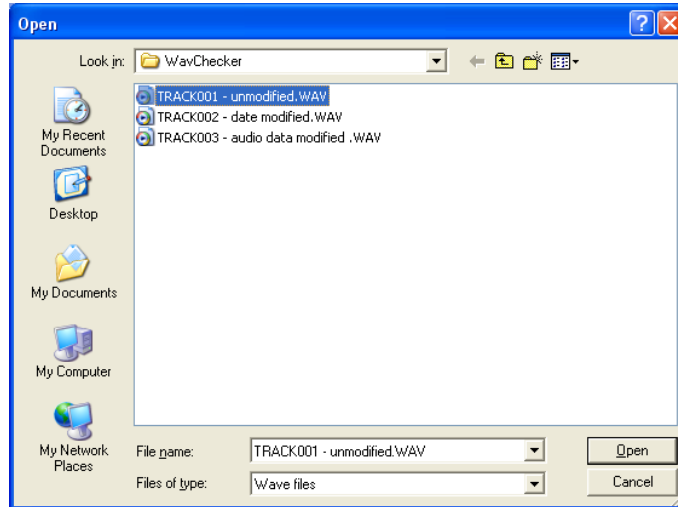
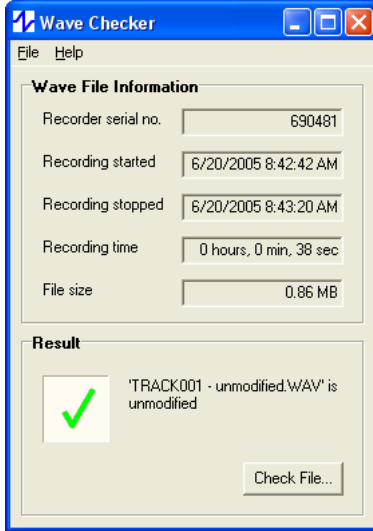
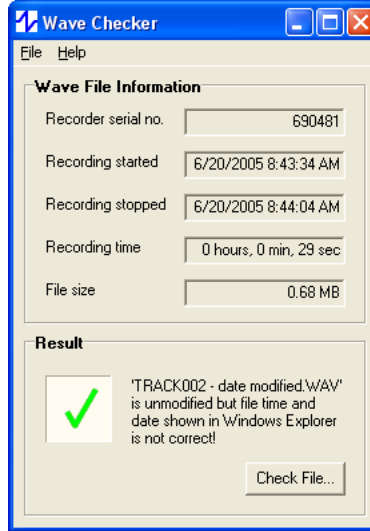
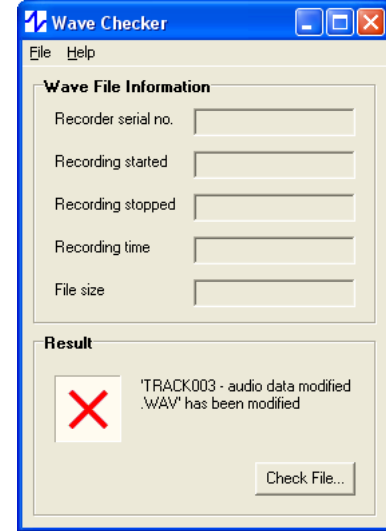

Fig. 2. The Windows Open dialog box.
Fig. 3. Result: Unmodified wave file.
Fig. 4. Result: Unmodified wave file but time/date not correct.
Fig. 5. Result: Wave file audio has been modified.
2. Click the **Check File** button. A Windows **Open** dialog box (Fig.2.) displays.
3. Navigate to the (.wav) file that you want to authenticate and select the file. Click the **Open** button (Fig. 2.). One of three results will display: Unmodified (Fig. 3.), Unmodified but date/time not correct (Fig. 4.), or Audio data modified (Fig. 5.).
The result shown in Figure 3 indicates that the file is trustworthy.
In the example in Figure 4, the audio was not modified, but the time and/or date information contained inside the .wav file does not agree with the file's date/time stamp, indicating that it may have been tampered with.
In the Figure 5 example, the wave file audio has itself been modified and cannot be trusted.